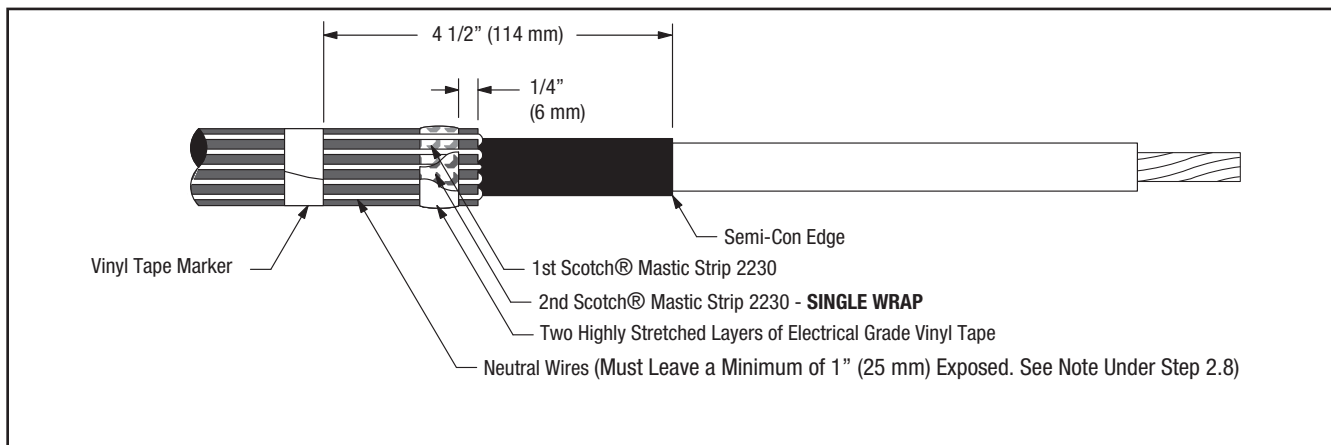

Figure 3
2.6 Bend neutral wires back over applied sealing mastic and secure to cable jacket **4 1/2" (114 mm)** from cable semi-con edge using vinyl tape (see NOTE and Figure 3).
2.7 Select second Scotch® Mastic Strip 2230 from kit and remove white release liners. Apply a second **SINGLE WRAP** of mastic over the neutral wires and previously applied mastic (Figure 3). Cut off excess.
2.8 Compress neutral wires into mastic by over-wrapping seal strips with two highly stretched layers of electrical grade vinyl tape (Figure 3). **Be sure to cover all exposed mastic AND TO READ THE CONCENTRIC NEUTRAL WIRES NOTE, OR THE SPECIAL FLAT STRAP NEUTRAL WIRES NOTE, BELOW CONCERNING APPLICATION OF THE TWO HIGHLY STRETCHED LAYERS OF ELECTRICAL GRADE VINYL TAPE.**